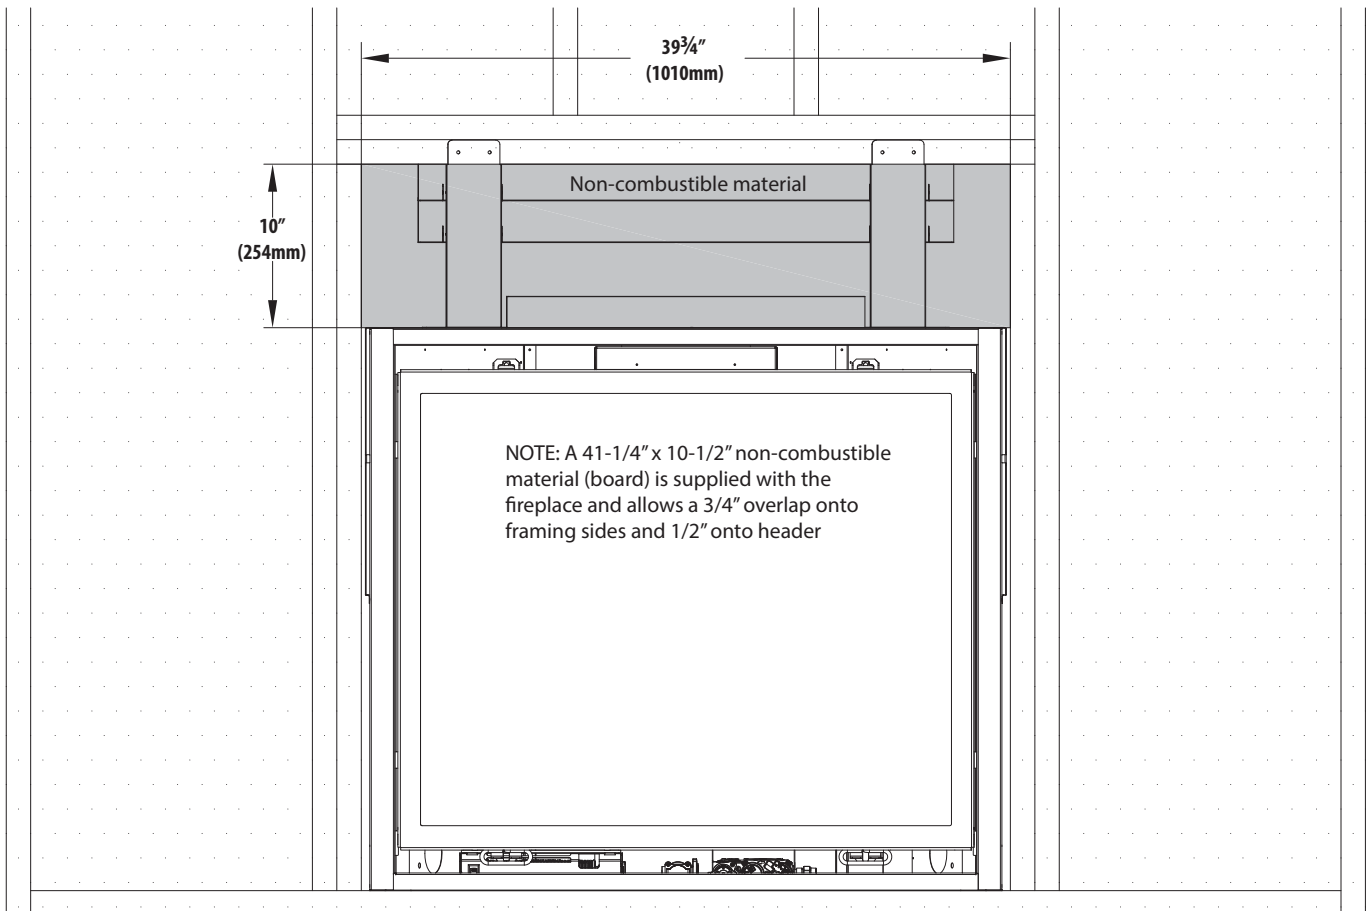

Figure 4.4, Non-Combustible Material
- This appliance is shipped with a 1/2" thick non-combustible material (board) that overlaps the header and the sides of framing. See Figure 4.4, Non-Combustible Material on page 26. Screws are allowed to penetrate the steel framing assembly to attach finishing material.